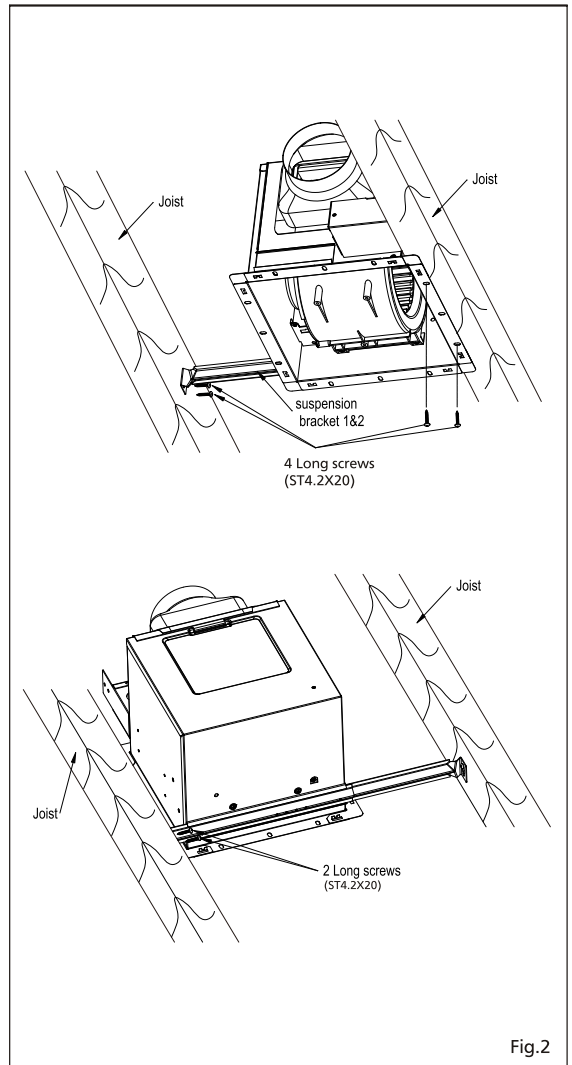

Fig.2
3. Install the suspension bracket and the flange of fan body to joists by using long screws (ST4.2X20) and secure it to the fan body by using screw II (ST4.2X14). (Fig.2)